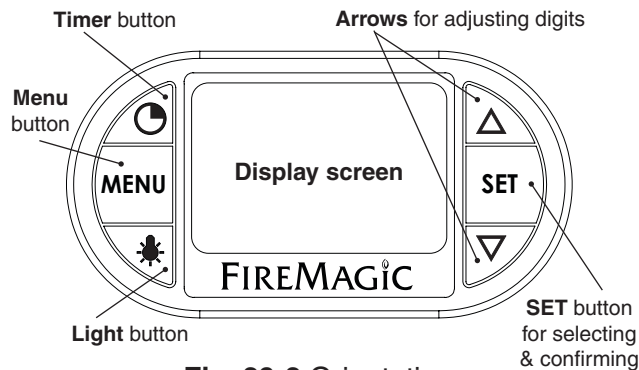

Fig. 29-2 Orientation
Read the following sections completely regarding thermometer operation. Refer to Fig. 29-2 for thermometer orientation and button locations.
1. Press the light button to turn both the interior oven lights and knob backlights **ON** (see Fig. 29-2). The interior oven lights will remain **ON** when the hood is closed (for use of the Magic View window).